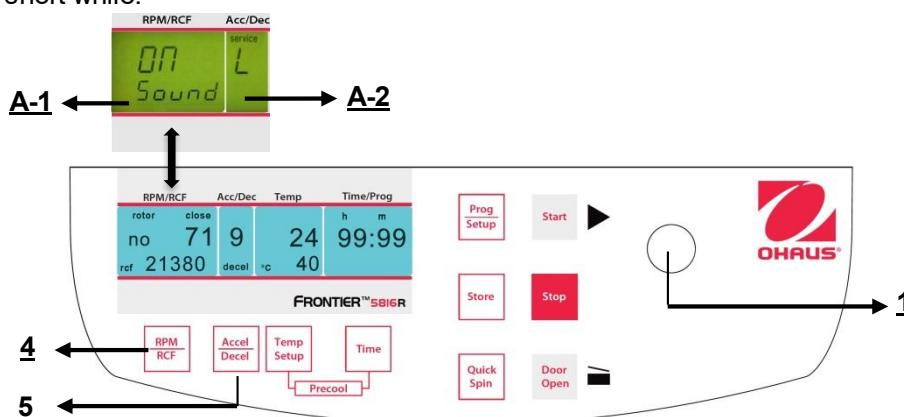

Figure. 32
Proceed as described under point 4.1.1 to enter this program mode and then press the key "**Accel/Decel**" (5). In the display "**Acc/Dec**" (A-2) the word "**Service**" flashes. Now select the letter "**L**" with the adjusting knob (1). As a result, the words "**On Sound**" appears in the display "**RPM | RCF**" (4). If you press the key "**RPM | RCF**" (4) now, the word "**On**" flashes and you can switch off the sound with the adjusting knob (1) (See figure 32).